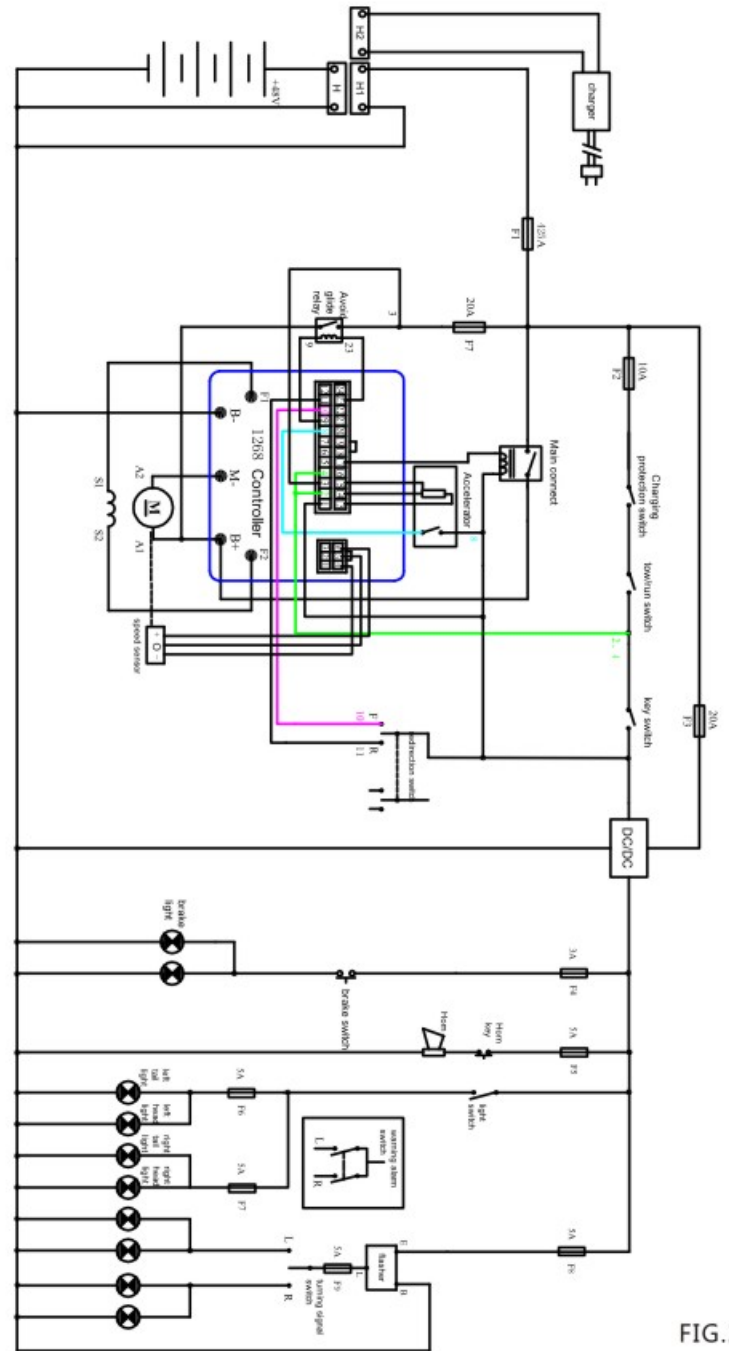

FIG.2
2)Wiring diagram for vehicle 48V with Curtis Controller 1268 (FIG.2)